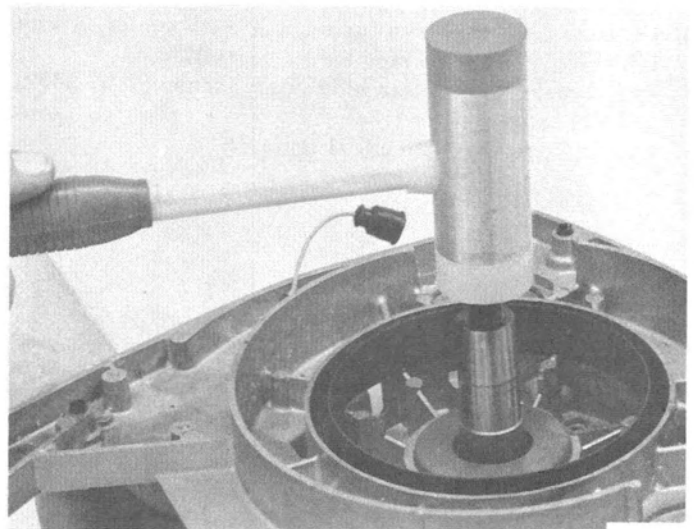

Figure 5. Crankshaft Removal
11. To remove crankshaft from fan side of crankcase, heat bearing boss with propane to 210° to 280° F. Position assembly, as shown in Figure 5, and tap lightly with soft hammer. Drive crankshaft from crankcase. Use care not to drop crankshaft.